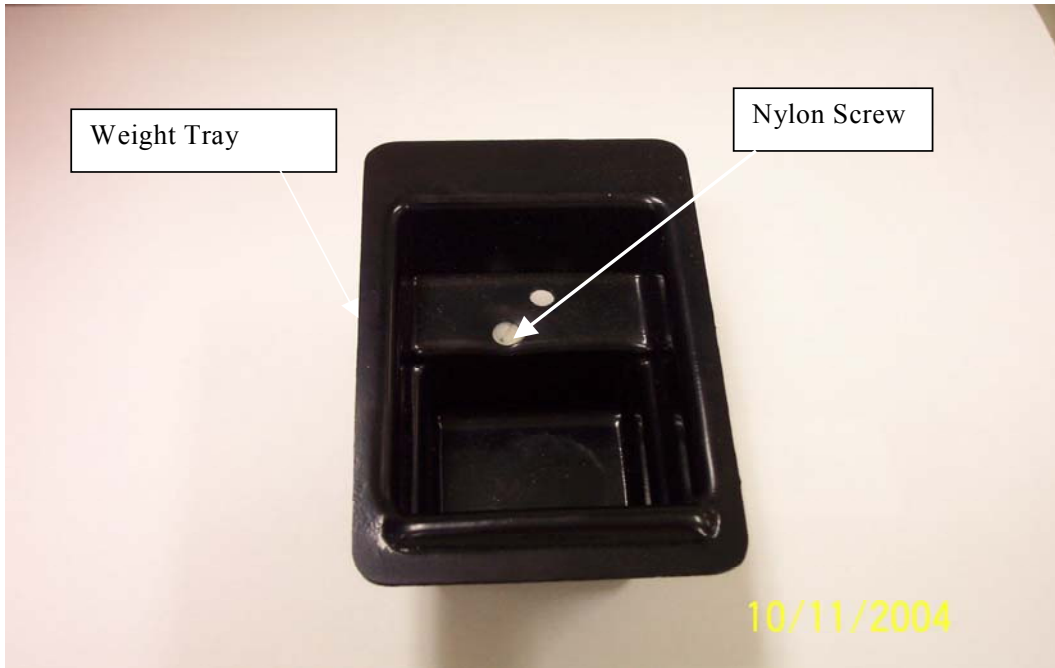

Figure 1
3. Remove the weight tray. Tape the nylon screw in place and lay the weight tray in the top of the furnace (Figures 1 & 2).